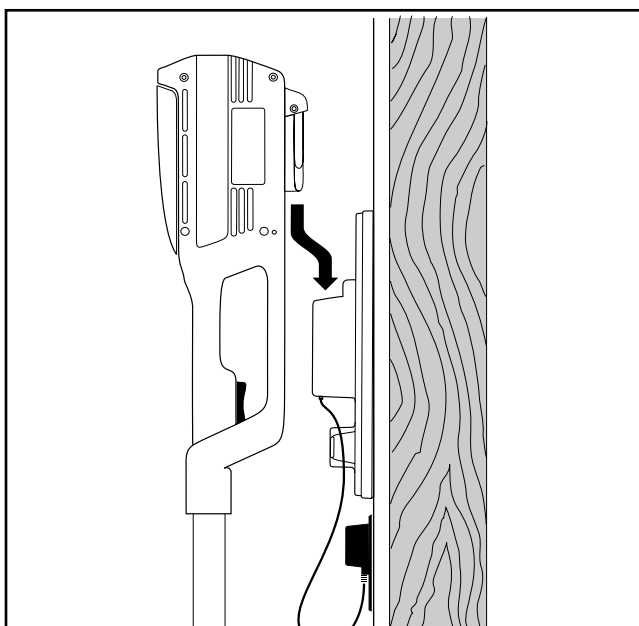
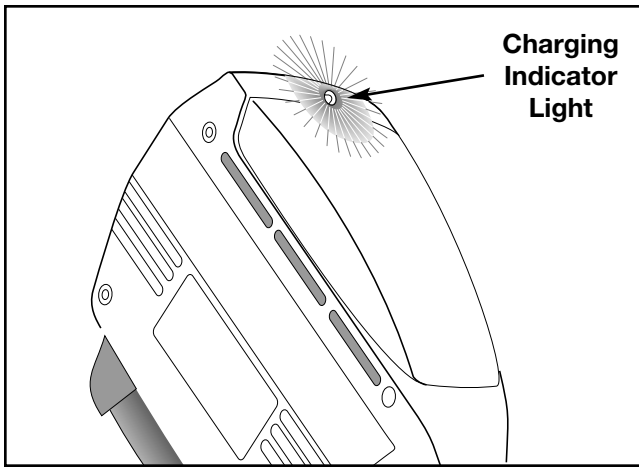

Fig. 7
Fig. 8
2. Insert the unit into the wall station and make sure it is firmly seated (Fig. 7). When the red light is on, the battery is being charged (Fig. 8).